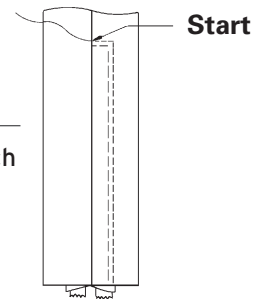

Fig. 9-6
11. Move the zipper foot to the right side of the needle, and begin stitching at the bottom of the zipper. Sew along the hand basting across the bottom of the zipper, stitching $\frac{1}{2}$ inch (1.3 cm) out from the seam. To pivot the corner: stop with the needle in the fabric; lift the presser foot and turn the fabric so the top edge of the garment is toward you; lower the presser foot. Continue stitching along the basting, $\frac{1}{2}$ inch (1.3 cm) from the seam, to the top of the garment. Backstitch $\frac{1}{4}$ inch (6 mm) at the top of the zipper to secure the stitching. (Fig. 9-6)